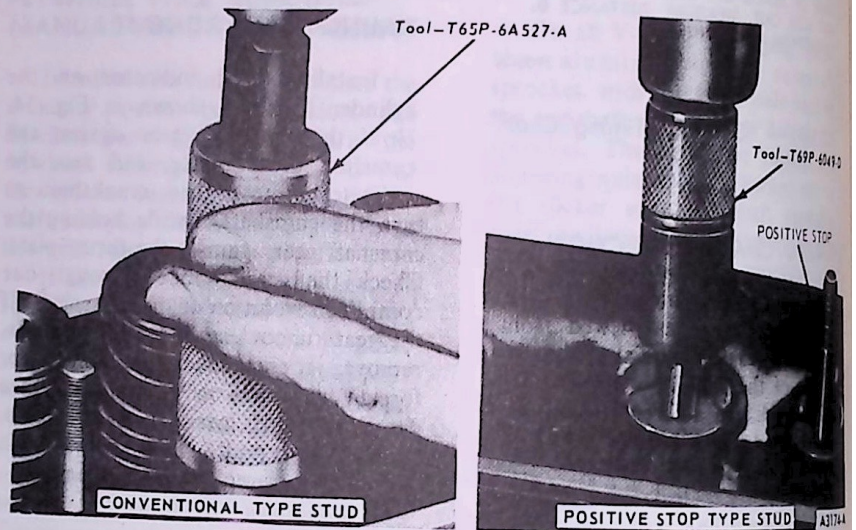

FIG. 17 Installing Rocker Arm Stud—240 Six and 302-W V-8
3. If working on a 240 or 302 CID engine, screw the new stud into the sliding driver of the rocker arm stud installer (T65P-6A527-A) and coat the end of the stud with Lubriplate. Align the stud and installer with the stud bore, then tap the sliding driver until it bottoms (Fig. 17). When the installer contacts the stud boss, the stud is installed to its correct height. This applies to a 240 or 302 engine only.